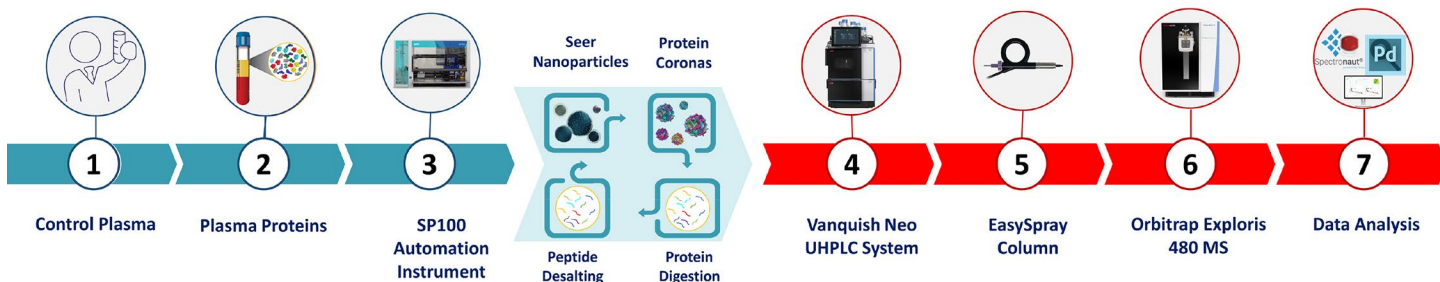

Figure 1. High-throughput plasma proteomics workflow
Plasma proteomics using mass spectrometry (MS) remains a promising method to discover disease biomarkers. However, for large-scale plasma proteomics studies, a robust liquid chromatography-mass spectrometry (LC-MS) setup is required that does not compromise on protein identification, protein sequence coverage, dynamic range, and analysis precision. Here, a high-throughput workflow and a maximum identification (Max-ID) workflow on an Orbitrap Exploris 480 mass spectrometer for in-depth analysis of plasma are presented. The plasma samples were processed with the Seer Proteograph™ XT workflow utilizing proprietary engineered nanoparticles for an unbiased and deep proteomics protein sampling and analysis at scale. See Figure 1.